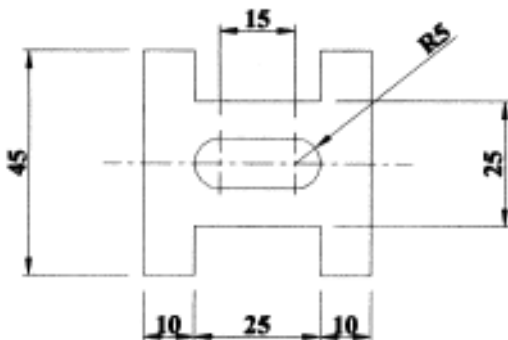

Fig: 1
1. a) Sketch the assembly drawing of a progressive die for the component shown in Figure 1 6
2. a) List the name of different types of stoppers and draw a neat sketch of it that used in design of progressive die of component shown in Fig. 1. 8
- b) Explain the methods of mounting of the punch and design and draw the punch plate for component shown in Fig. 1. 6